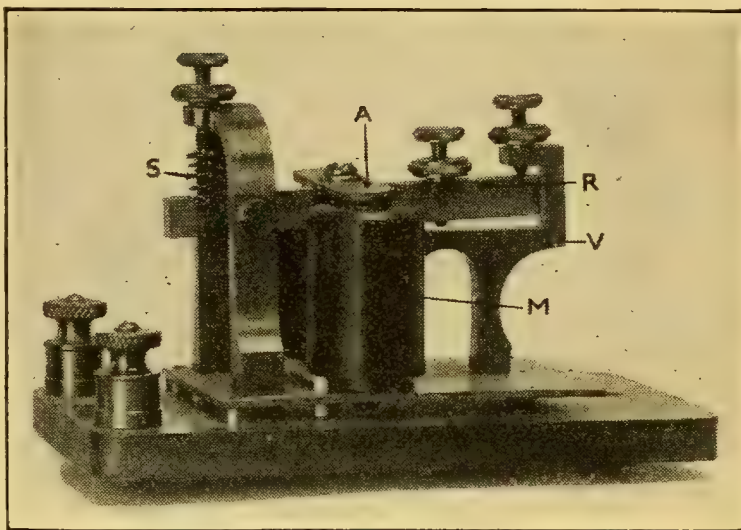

FIGURE 362. — TELEGRAPH SOUNDER.
magnet of the horseshoe type (M, Figure 362). A soft-steel armature (A) is suspended above the poles of the magnet by means of a rocker arm (R). This rocker arm is pivoted to a post near one end of the sounder, and held away from the magnet by a spring (S). When a current is sent through the